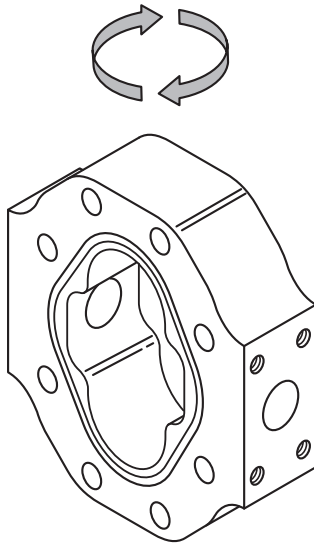

Figure 26
5. Flip the gear housing 180° (Figure 26) and carefully slide over the gears. Make sure both section seals stay in the seal grooves during assembly. Keep the drive gear and idler gear in the same gear bore as before.